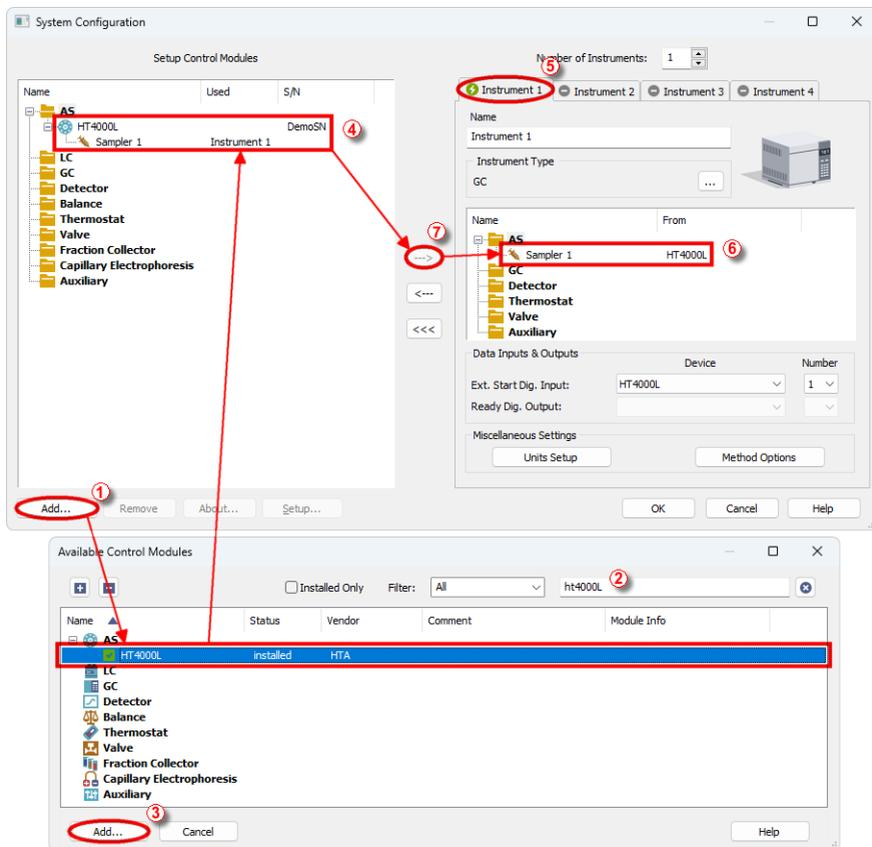

Fig. 2: System Configuration
- Press the **Add** button ① (see Fig. 2 on pg. 5.) to invoke the *Available Control Modules* dialog.
- You can specify the searching filter ② to simplify the finding of the driver.
- Select the **HT4000L** sampler and press the **Add** ③ button.